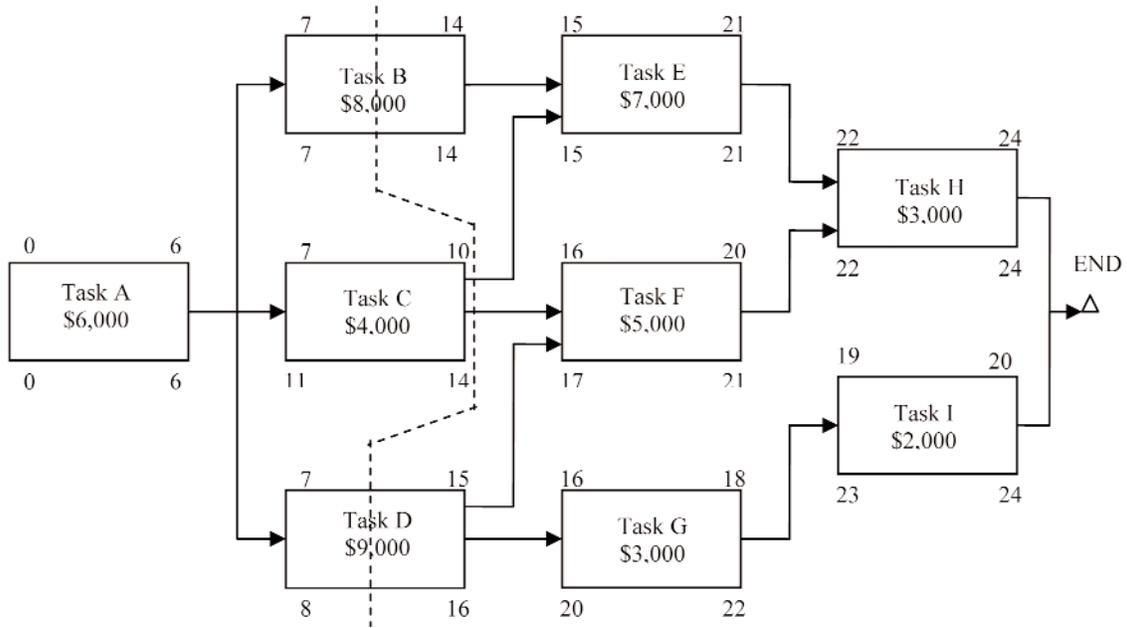

Figure 8—Baseline Schedule Showing Status Dat
The planned value (PV), also known as the budgeted cost of work scheduled (BCWS), is the point on the baseline where the line representing the date that status will be reported intersects the baseline. This line is often referred to as a data date or status date. The PV (BCWS) represents the portion of the budget we expected to spend as of the status date if all work is accomplished exactly as we planned. Figure 8 shows how the PV is determined for day 10 using our previous baseline example.